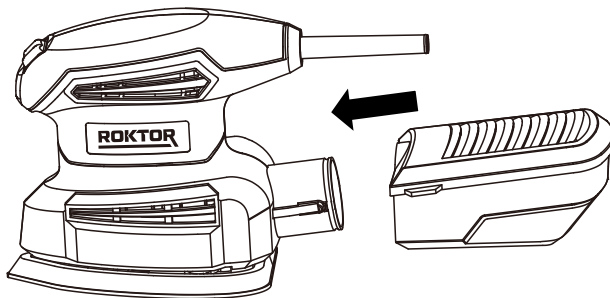

Figure 2
2. USING THE DUST BOX (SEE FIG. 2)